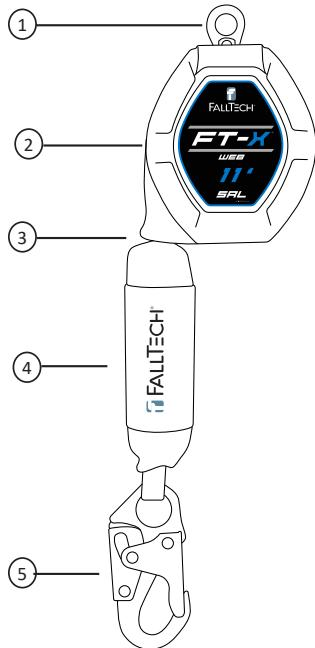

Figure 1 - About the 11' FT-X Web
As shown in Figure 1 below, the FT-X Web has a nylon housing that contains a synthetic lifeline wound onto a spring tensioned drum. The FT-X Web lifeline is equipped with an energy absorber and a leg-end connector. When the user is attached, the lifeline extends and retracts with the user movement, automatically maintaining taut lifeline. If a fall occurs, a centrifugal pawl system engages, stopping the lifeline payout. Then, the in-line Energy Absorber (EA) will deploy, gradually slowing and arresting the fall.